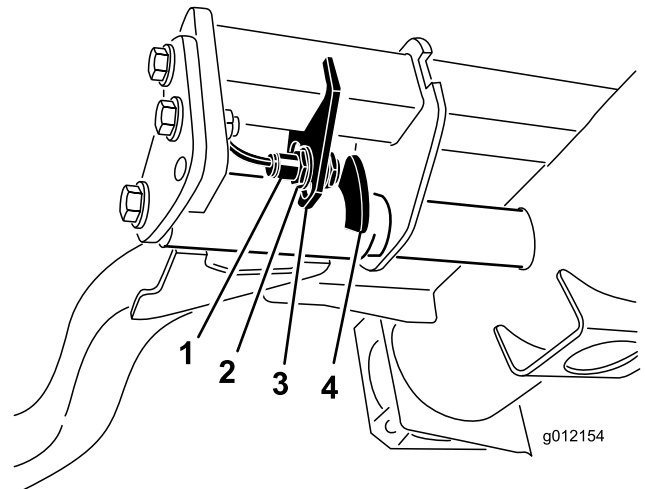

Figure 54
2. The lift arm switch is located underneath the hydraulic tank behind the front right lift arm (Figure 54).
3. Loosen the switch mounting screws (Figure 54) and move the switch down to increase the lift arm turn around height or move the switch up to decrease the lift arm turn around height. Tighten the mounting screws.